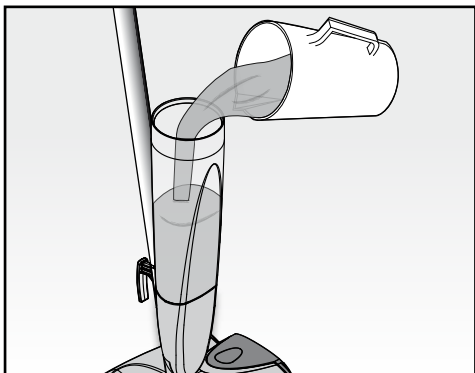

Fig. 5
- Fill the tank (M) with water (Fig. 5) and close it with the special cap (L).